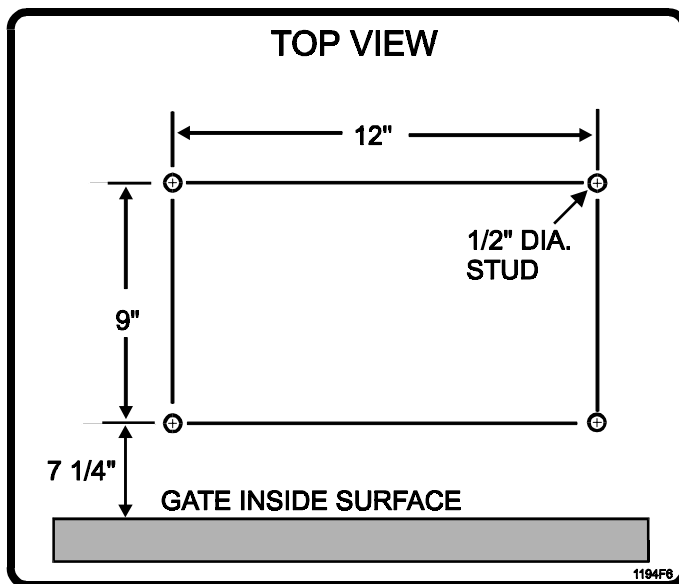

Figure 5. Bolt Down Pattern.
3. Four anchor bolts are required to secure the gate operator to the pad. The mounting holes in the gate operator are 5/8" in diameter. 1/2" x 3 1/2" Red Head bolts are recommended (Figure 5).